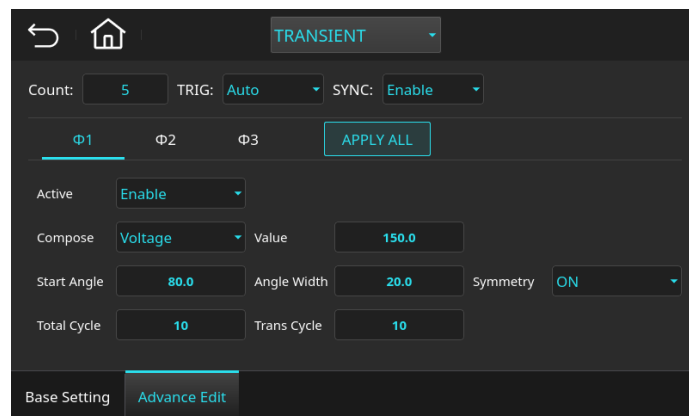

Figure 5-37 Transient Waveform Mode Setting Page (Example Parameters for Phase 1 – Surge)
5. Set TRIG = Auto, and edit the parameters as shown in Figure 5-37.